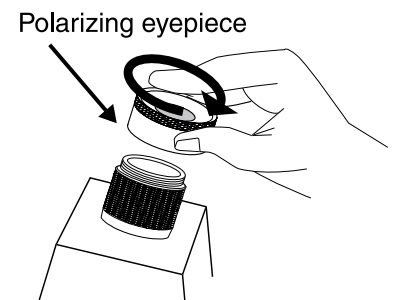

Figure 9-17
- ④ Fit the polarizing eyepiece on the body tube (Figure 9-17).